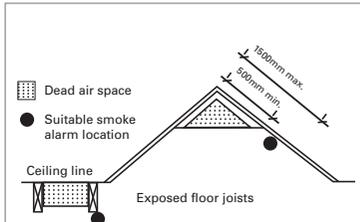

Figure 5 RECOMMENDED LOCATION TO MOUNT SMOKE ALARMS IN ROOMS WITH EXPOSED BEAMS OR SLOPED, GABLED, OR PEAKED CEILING
If your rooms have sloped, peaked, or gabled ceilings, smoke alarms must be installed 500 mm – 1500 mm, measured horizontally, from the highest point (apex) of the ceiling as shown in Figure 5.
- In dead air spaces where smoke may not enter. Avoid installing alarms in the peak or upper sections of a sloping or 'A' framed ceiling, and between exposed ceiling beams, where the air does not circulate, see figure 5.